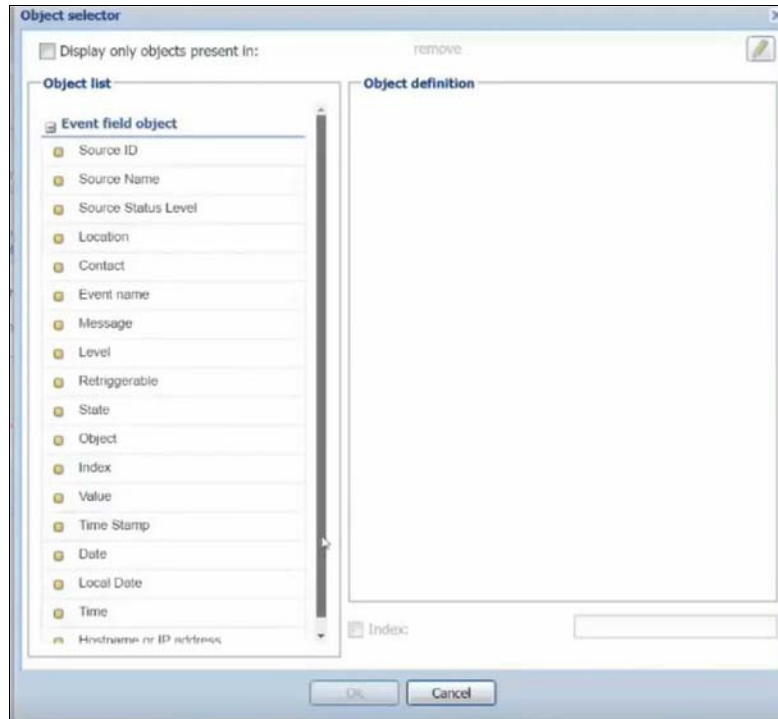

Figure 52 Dynamic information for a command/script
4. To select dynamic information to include into a script, click the Pencil icon as highlighted in Figure 51. The objects that can be defined dynamically in the script are shown in the dialog box as shown in Figure 52.